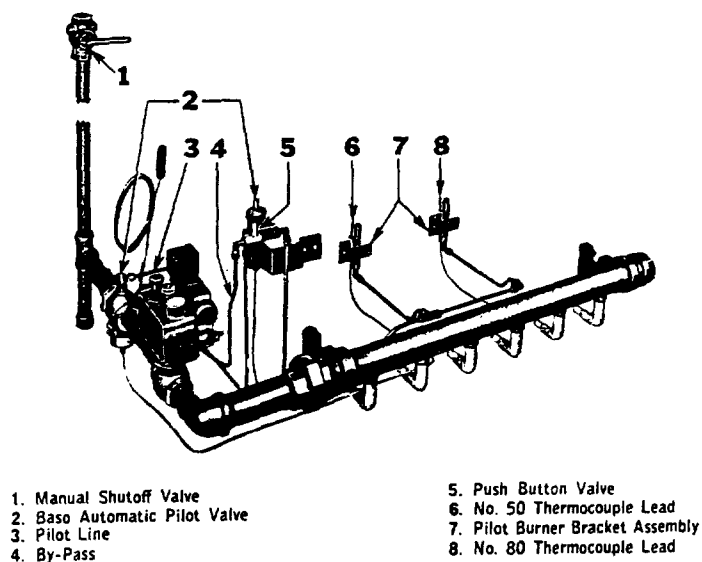

FIG. 20—Control Connections
1. Connect pilot line from BASO 500 series valve in main gas line to BASO 808 series pilot valve. Connect pilot line from $\frac{1}{8}$ inch tee at outlet of BASO 808 series valve to pilots. (If 3 pilot burners are installed, there should be 2 BASO 808 series valves in series). Connect a by-pass line from tee in main line to push button valve attached to tee on BASO 808 outlet. See Fig. 20.